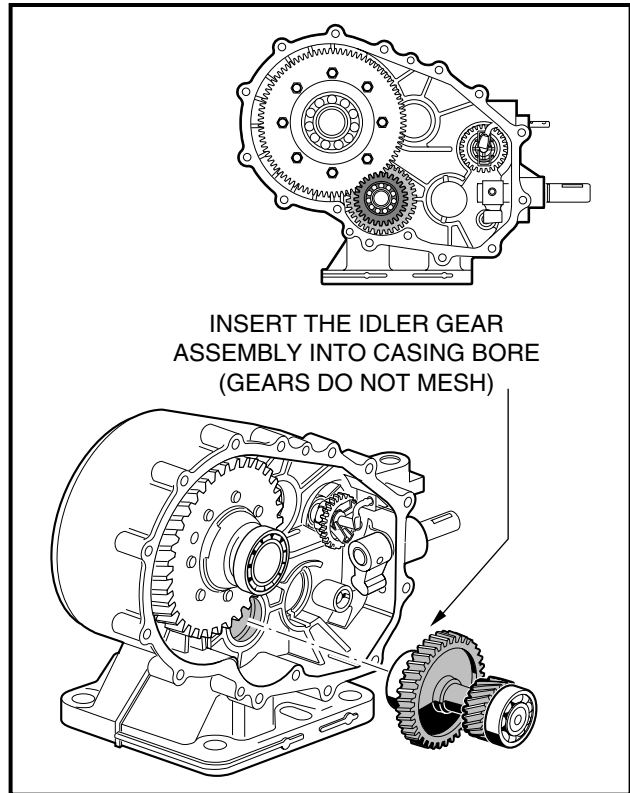

FIGURE 10-75
- 7.2. Install the idler shaft assembly into the casing as shown. Do not seat the assembly in the bore, but insert far enough that it will not fall out. No gears mesh at this time (**Figure 10-75, Page 64**).